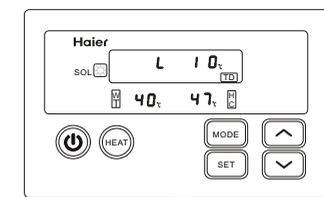

Fig.8 Temperature difference setting interface for water pump
- Indicating clock condition---to set heating temperature in fixing temperature--indicating clock condition. For example: temperature difference value setting of water pump running: to press the setting key to enter the setting condition of temperature difference of water pump running. The indication board indicates the present set value (the first place on the left of the clock number tube indicates L, and the following two places indicate the tacitly approved set value, which is 10 ℃). To press “ ^ ” 、 “ √ ” to select between 10 ℃ and 6℃. For the indication interface, see Fig.8.